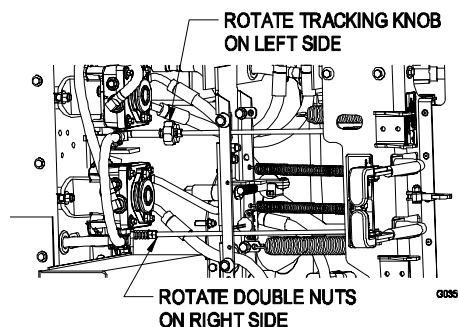

FIGURE 13
- g) Adjust the right pump linkage by using a wrench to turn the double nuts on the assembly. See Figure 13.